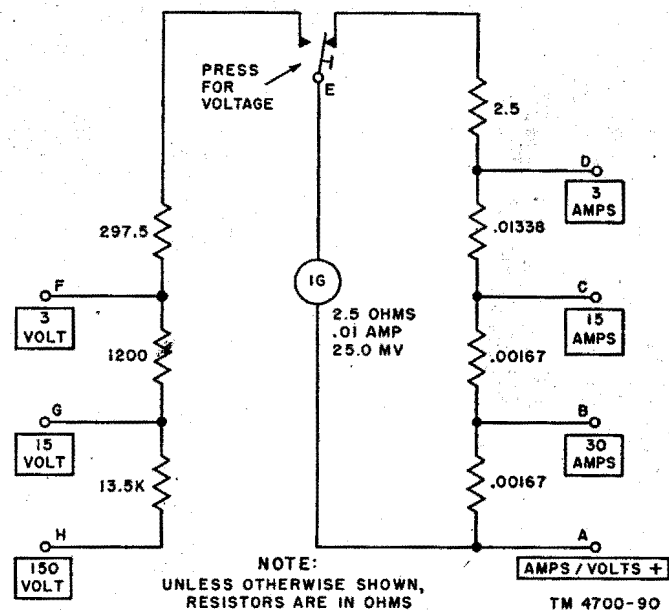

Figure 53. Voltammeter I-50.
50. Voltammeter I-50 (Weston No. 280) (fig. 53)
- (1) Press the PRESS FOR VOLTAGE control, and turn it $\frac{1}{4}$ turn. Connect suitable test cords from Meter Test Sets TS-682/GSM-1 to the AMPS./VOLTS+ binding post and the appropriate range binding post of Voltammeter I-50.
- (2) Apply 3 volts dc from the meter test set. The value of this voltage must be determined by the use of the calibration cards packed in the rear shelf of the test set. Use of the cards will guarantee accuracy within plus or minus .25 percent, as compared with the direct accuracy of plus or minus 1 percent. Voltammeter I-50 should indicate a full-scale voltage reading of 3 volts plus or minus .25 percent. If the reading is less accurate, check resistor F (fig. 53). Its value should be 297.5 ohms plus or minus .1 percent.
- (3) Repeat (2) above for the 15- and 150-volt ranges. The resistor for the 15-volt range is 1,200 ohms; the resistor for the 150-volt range is 13,500 ohms.